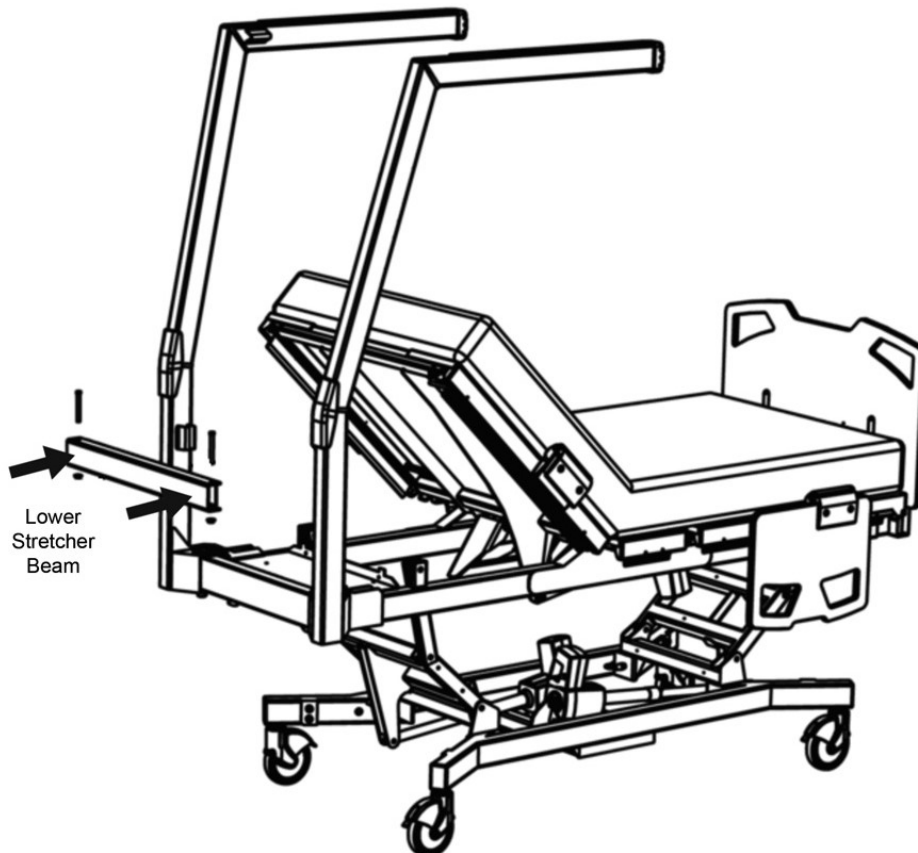
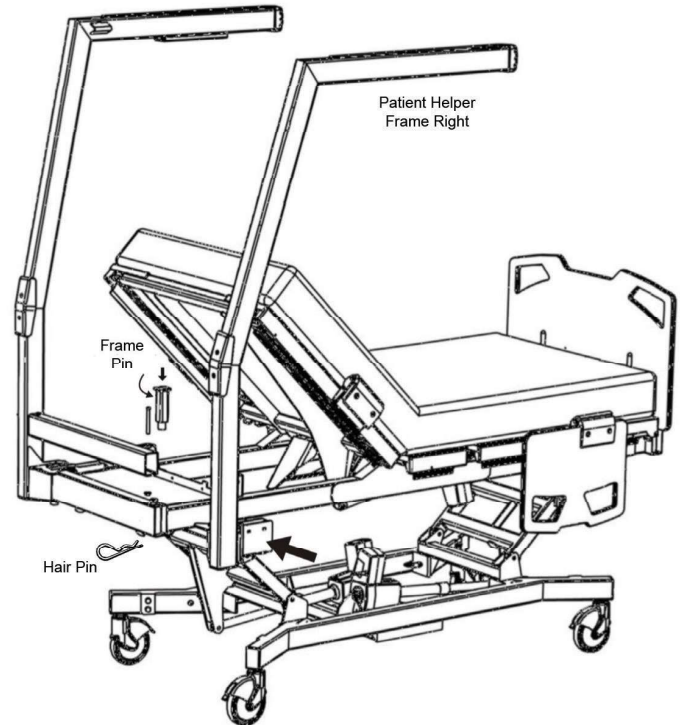

Figure 3
Figure 4
1. Install lower stretcher beam to the left Patient Helper Frame, loosely bolt with 3/8" bolt and nylon locking nut (Figure 3).
2. Drop (1) Frame Pin in place securing the trapeze arm to the bed frame (Figure 4). Secure Frame Pin with hair pin.
4. Slide Carriage Assembly as far forward as possible to middle of bed. Tighten lower stretcher nuts from Steps 2 and 3, Figure 3 and Figure 4 respectively